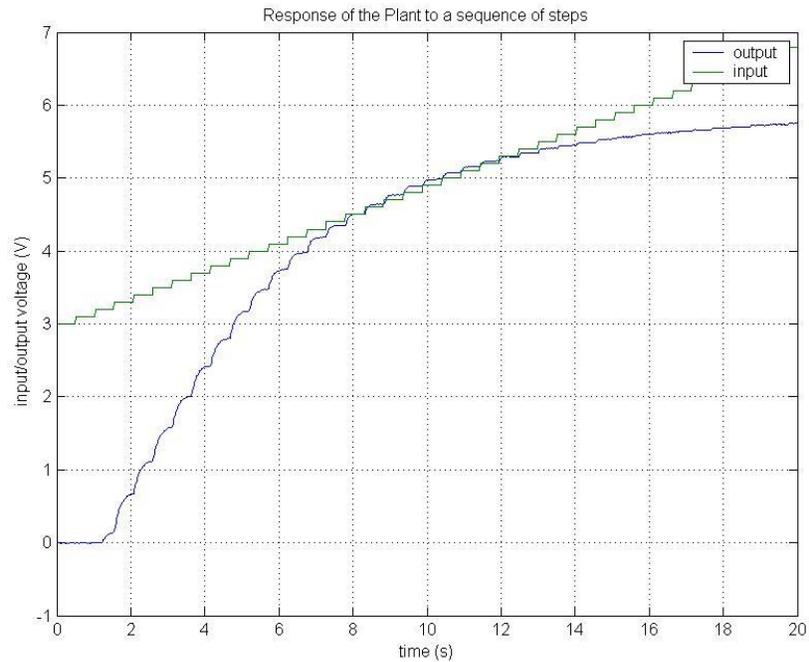

Figure 3: Sample output of the Linearity Estimation Experiment
10. When the experiment has completed you will get a webpage that looks somewhat like the one shown in Figure 3. You can save the plot by right clicking on it and choosing the appropriate option for your browser.